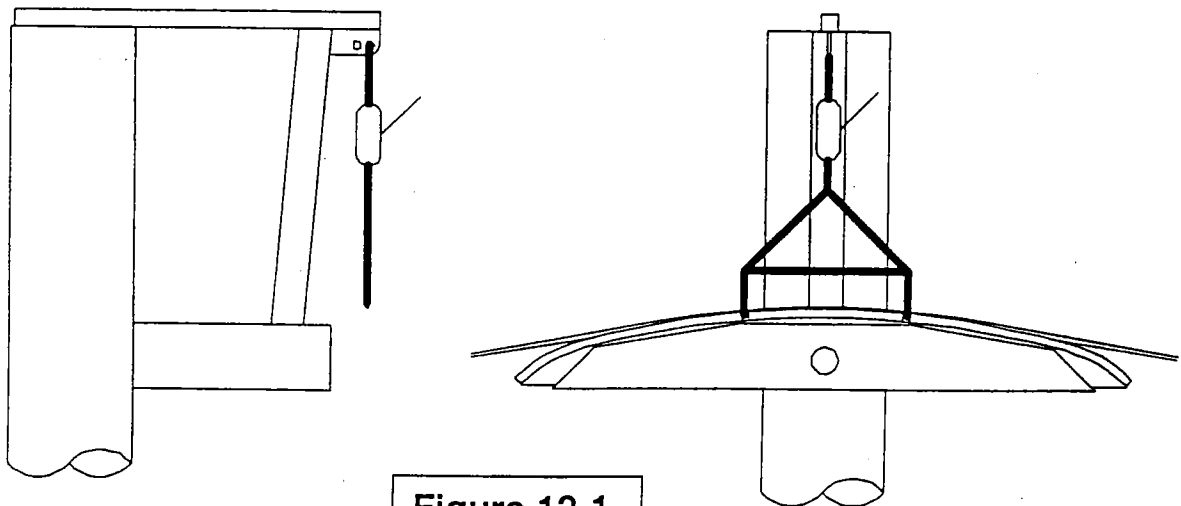

Figure 12-1
- Use the appropriate hole in lifting gantry and mount the dead end of hoist to crossarm. The hole closest to tower is for haul rope. The hole farthest from tower is for track rope. (See Figure 12-1)
- To lift the track rope on tower 1 remove the knock outs (index S on drawing 3038.782). Attach hoist to outside hole in cross arm. Wrap appropriate slings around the cable and attach to hoist. Use a 39-1/2in spreader bar to keep slings in proper position. (See Figure 12-1)